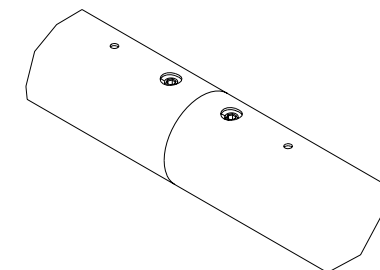

FIGURE 7
5. Finished joint should look like Figure 7.